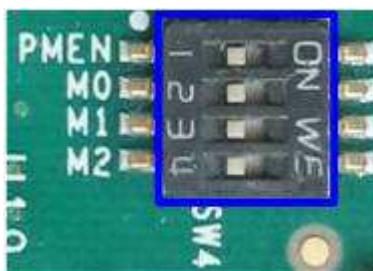

Figure 2-5 SW4 Configuration Mode
- Set FPGA configuration by HPS for Arria10 SoC board. Set SW4[2]-[4] to OFF position, as shown in Figure 2-5.